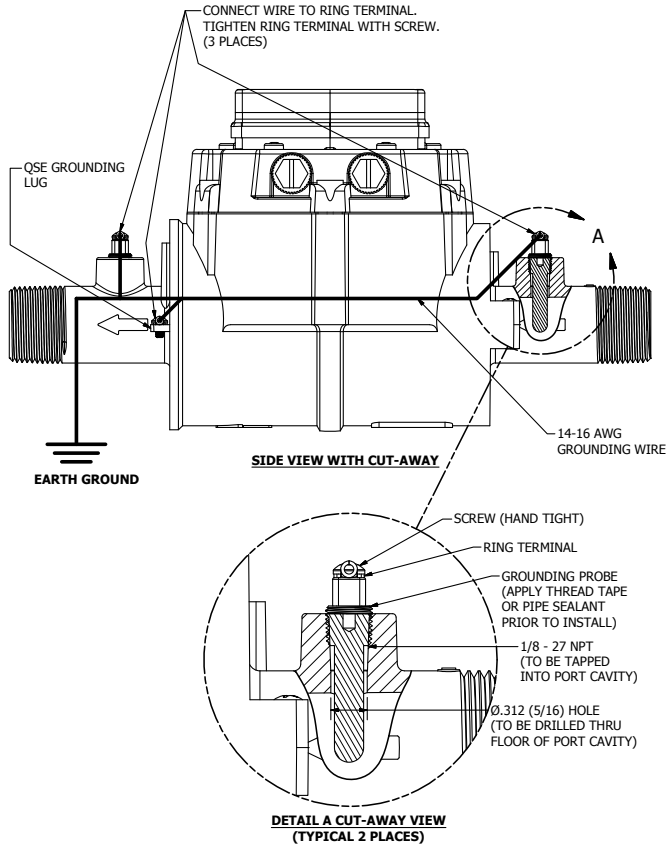

Figure 1
3. Ground process fluid to meter ground lug. (Customer responsibility.) Various process fluid grounding examples are shown on the following pages (see *Figures 1, 2, 3, and 4*) to assist you in completing this item. The examples cover various meter installation situations.